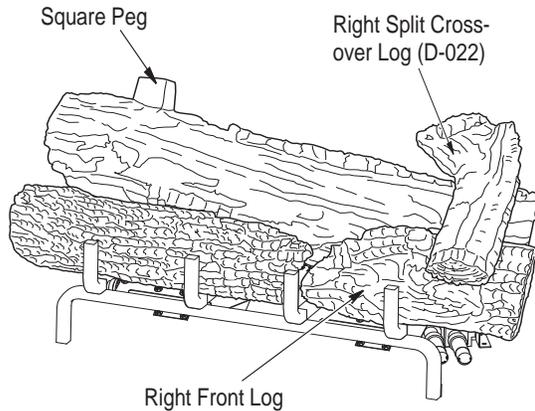

Figure 29 - Installing Right Split Crossover Log
- Find the right split crossover log (D-022) The bottom of the log has a rectangular stand off that fits in the slots on the right side of the front right log and the middle split log. Place this log as shown in **Figure 29**.